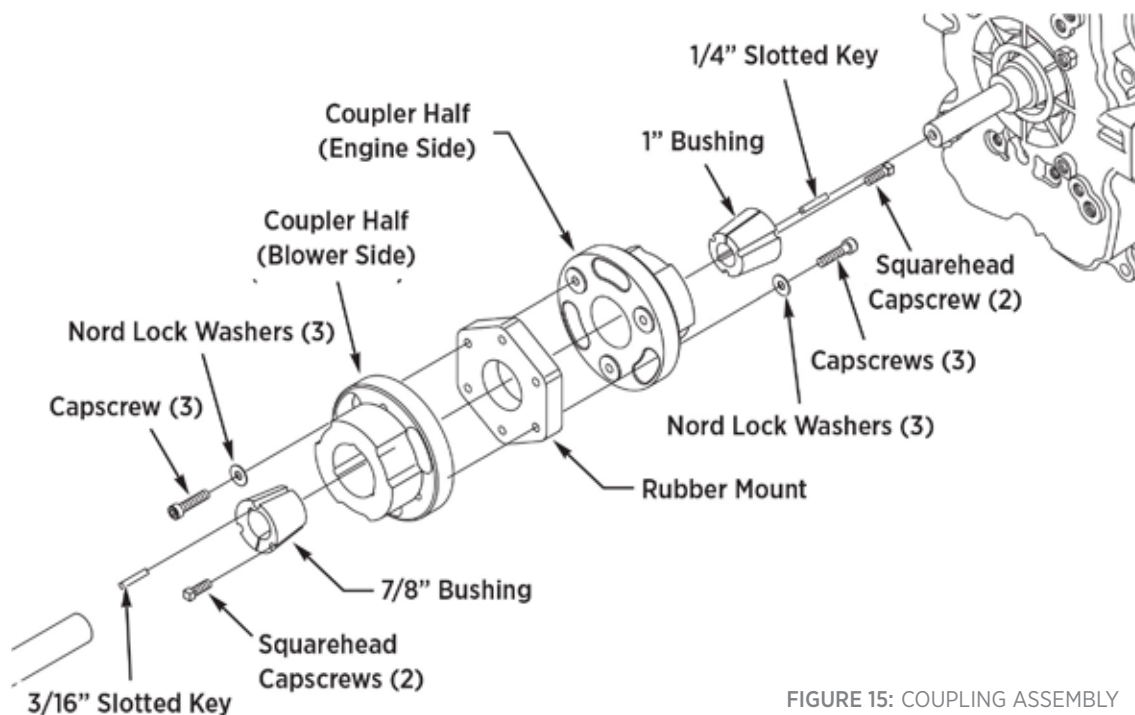

FIGURE 15: COUPLING ASSEMBLY
4. To remove coupling halves, remove the 6 cap screws with washers (3 on the blower side, 3 on the engine side). Then remove the 4 square head cap screws located on the bushings, inside the coupler halves (2 on the blower side, 2 on the engine side). Take 1 square head cap screw and tighten in the center hole of both the blower and engine bushing. Break loose from the shaft. Reference Figure 15.